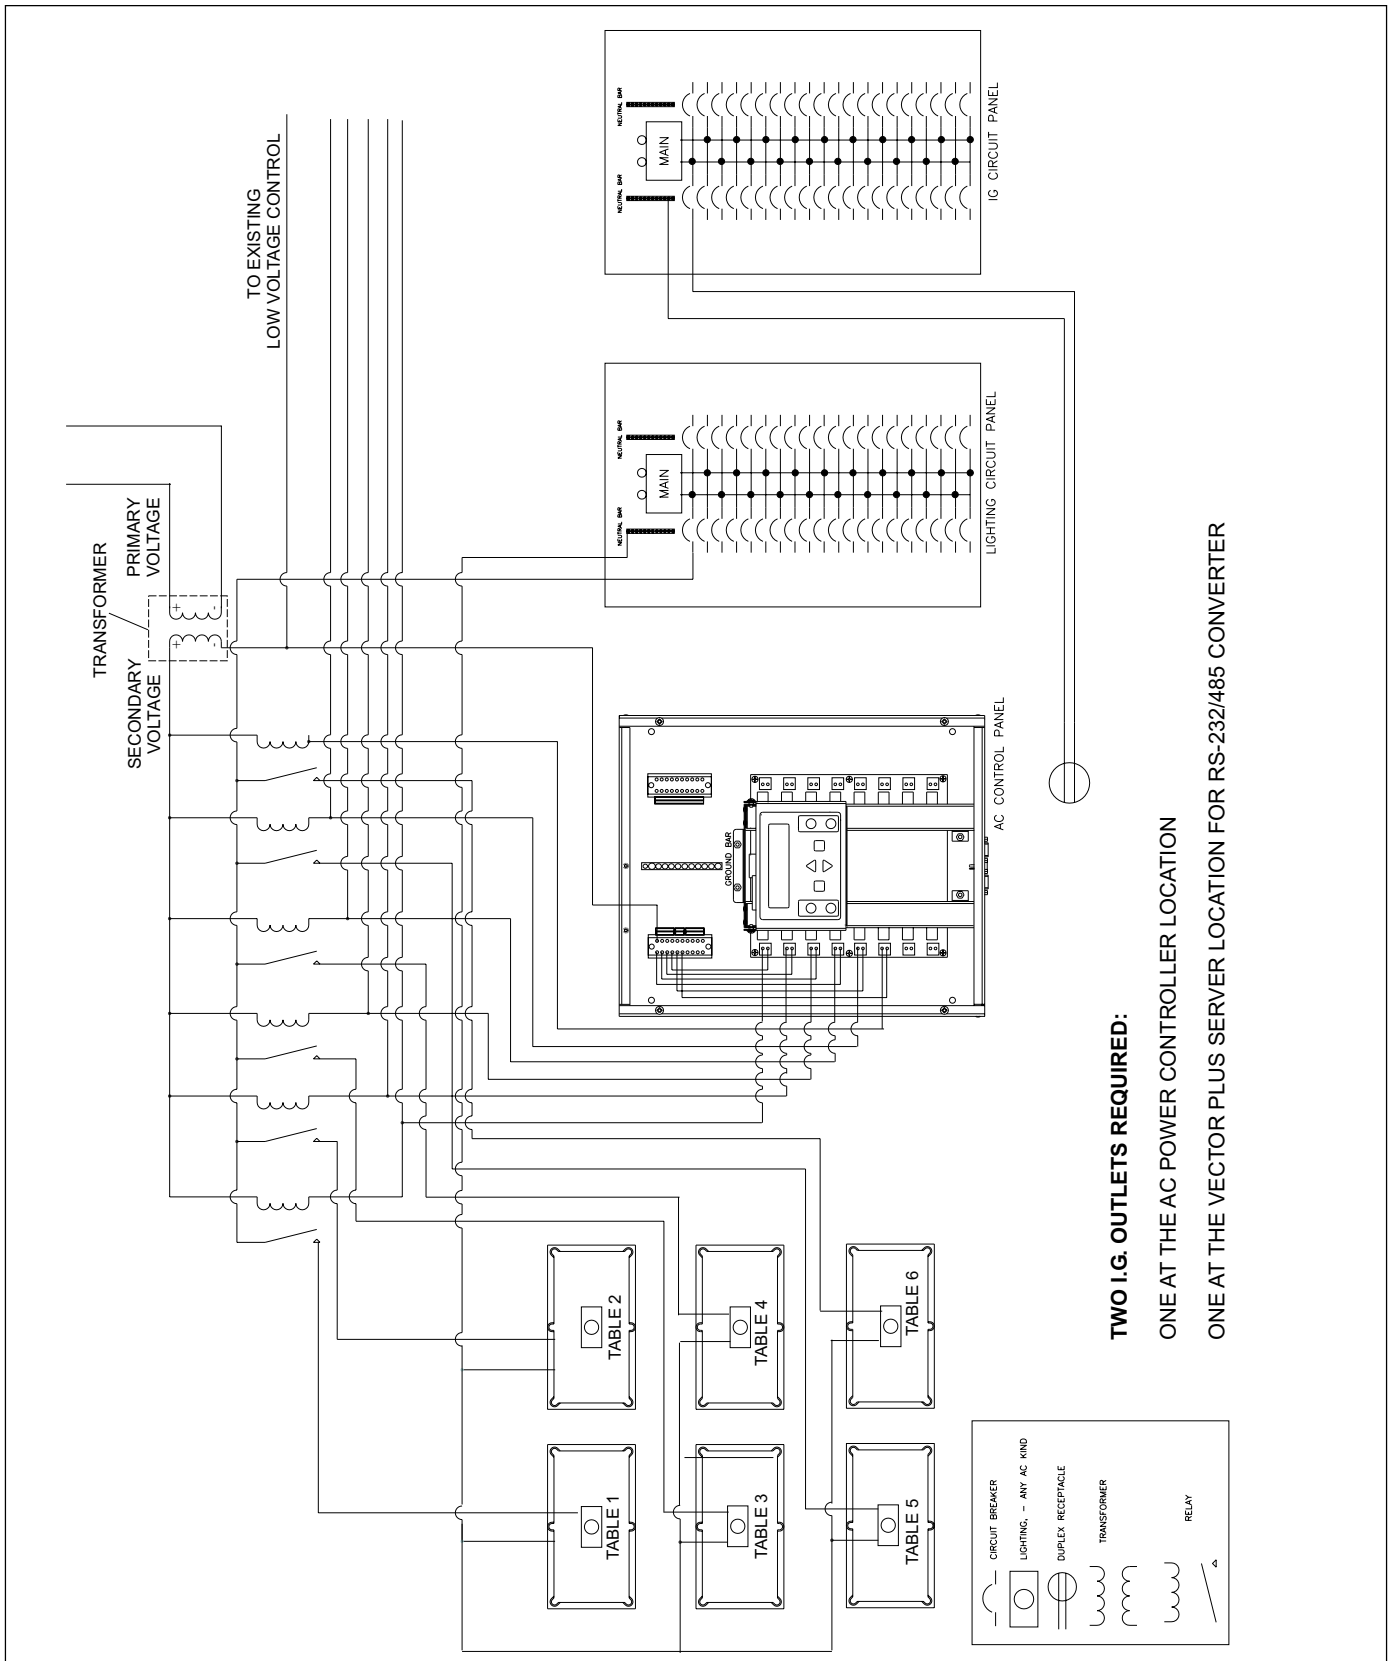

Figure 3. Upgrade Schematic
1. Route the line wire from the secondary voltage side of the "Relays Transformer" to the terminal blocks in the AC Power Controller. Refer to *Figure 3*.